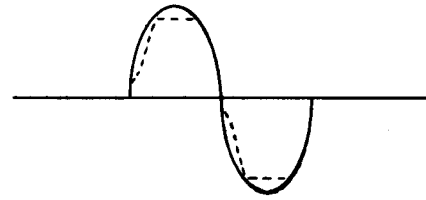

FIGURE 5-3
3. Turn the level control up until clipping occurs. Clipping must take place above 30 watts (typically in the 35-45 watt range). Refer to Figure 5-3 for output waveform characteristics.
**NOTE:** The output must clip before it distorts elsewhere. The dotted line in Figure 5-3 shows typical unacceptable distortion on the leading edges of the waveform.